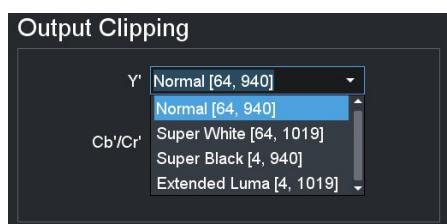

Figure 48 Example of Video Correction > SDR/HDR Conversion > Output Clipping
**Figure 48** shows the Output Clipping > Y' settings.